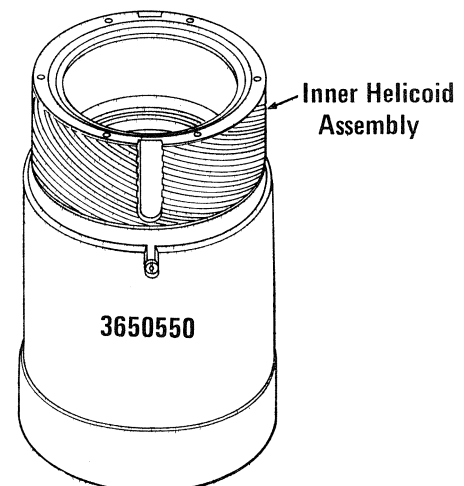
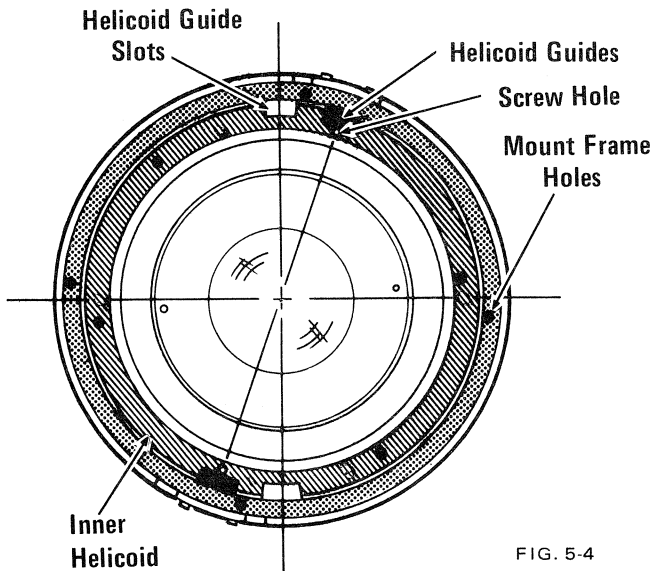

FIG. 5-3
FIG. 5-4
- e) Place the inner helicoid assembly on Tool No. 3650550 as shown in Fig. 5-3. Hold the outer and middle helicoids so that the alignment in 5.2d does not change. Set the middle helicoid down over the tool so that the center of the helicoid guides align with the holes in the helicoid nearest the helicoid guide slots as shown in Fig. 5-4.